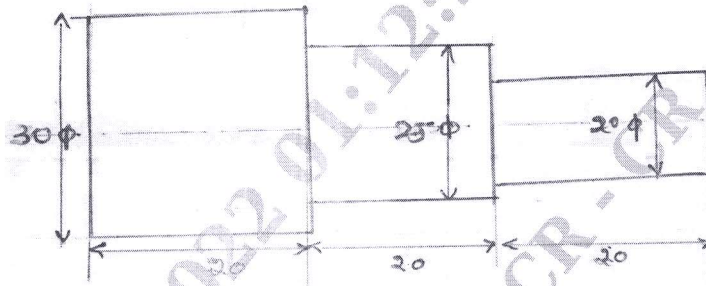

Fig.Q.9(b)
b. Write a manual part program for the profile as shown in the Fig.Q.9(b). (08 Marks)